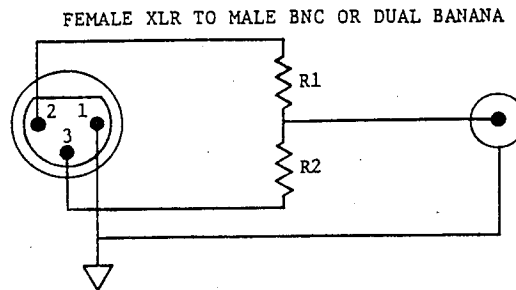

Figure 3.2. Test Cable for Output Calibration.
1. This electronically balanced output circuit will require a special test cable for calibration. R1 and R2 must be  $>20$  kilohms and precisely matched. See Figure 3.2.